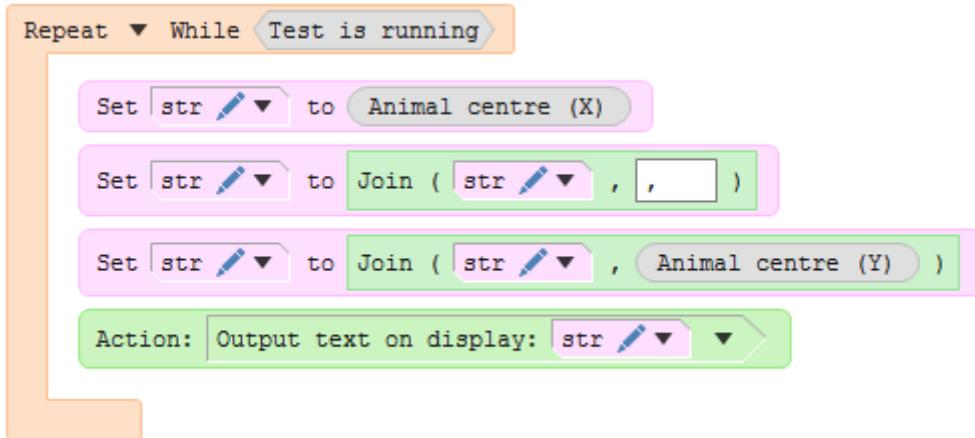

Figure 2. A procedure that contains a loop without a *Wait until* statement.
■ If the warning given for the procedure in figure 2 is ignored, and it is used in a test anyway, a **run-time warning** will also be generated.